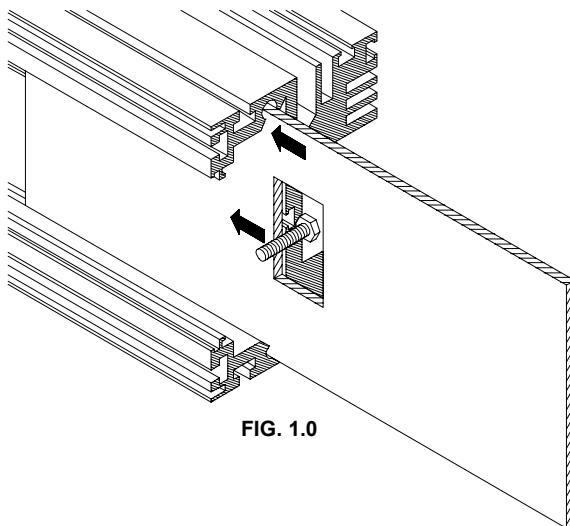

FIG. 1.0
- Slide the PCB in the largest slot of the heat sink. (See fig. 1.0)